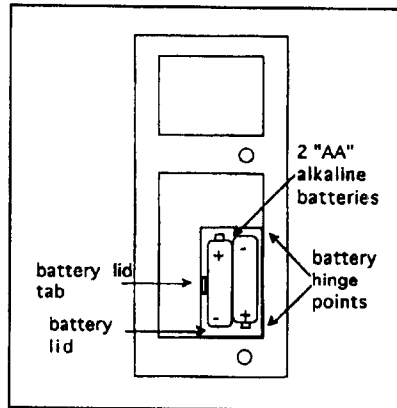

Figure 3-1. Battery Compartment
2. Insert 2 "AA" alkaline batteries into the battery compartment as shown in Figure 3-1.